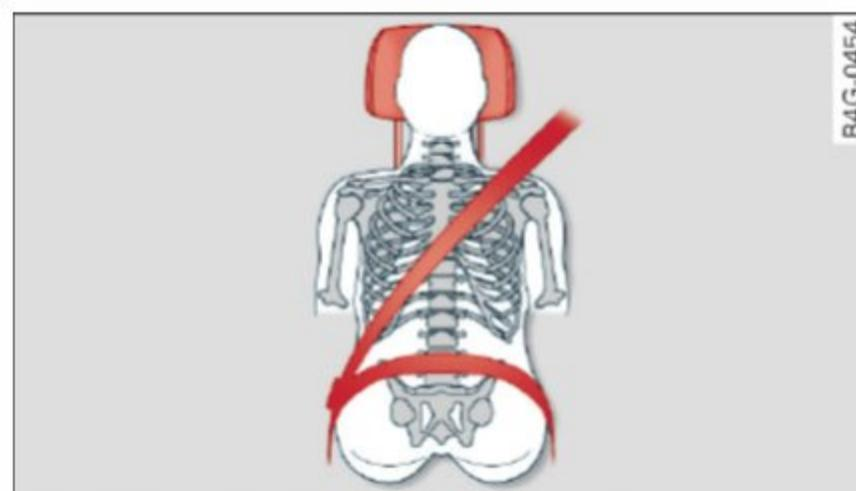

Fig. 120 Head restraint: viewed from the front
- ▶ Adjust the head restraints so the upper edge is as even as possible with the top of your head. If that is not possible, try to adjust the head restraint so that it is as close to this position as possible ⇒ *fig. 120*.